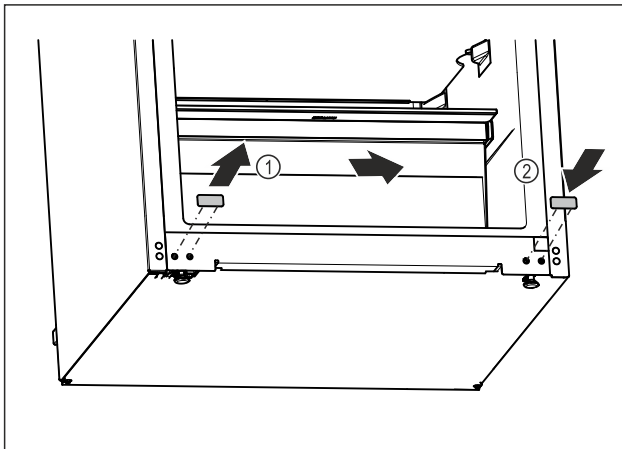

Fig. 21
- ▶ Pull out the cover plug. Fig. 21 (1)
- ▶ Insert the cover plug on the opposite side. Fig. 21 (2)